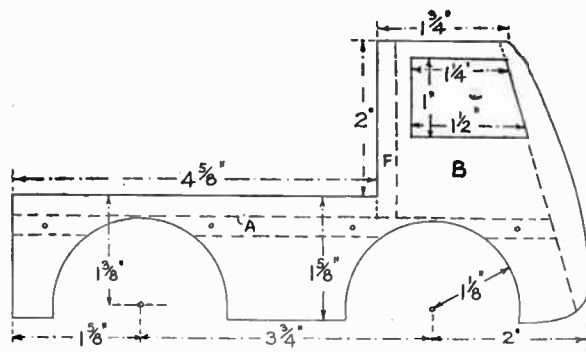

Fig. 3
The next piece to cut and fit will be piece (F), which is the cross-partition or back to the driver's seat. This piece is 2½ ins. square and ½ in. thick, and a window will be cut in it the same size as that in piece (C). The position of piece (F) is seen in the side diagram Fig. 3 and in Figs. 1 and 2. One or two wire nails or screws should be run up through the floor into this piece to ensure strength.